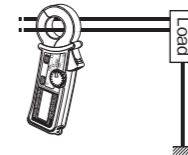

Fig.4 Measuring load current
- (1) Set the Range Selector Switch to the desired position. Current to measure should be within the selected measuring range.
- (2) Measuring load current (See Fig.4):